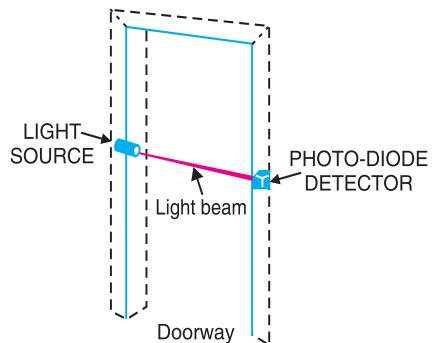

Fig. 7.14
**(i) Alarm circuit using photo-diode.** Fig. 7.14 shows the use of photo-diode in an alarm system. Light from a light source is allowed to fall on a photo-diode fitted in the doorway. The reverse current  $I_R$  will continue to flow so long as the light beam is not broken. If a person passes through the door, light beam is broken and the reverse current drops to the dark current level. As a result, an alarm is sounded.